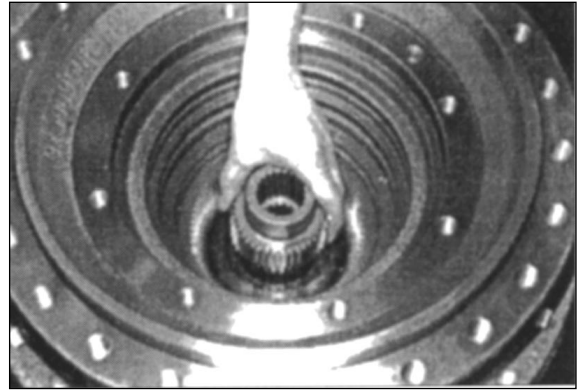

Figure 117
27. Install brake shaft while turning the reduction gear assembly. Figure 117.